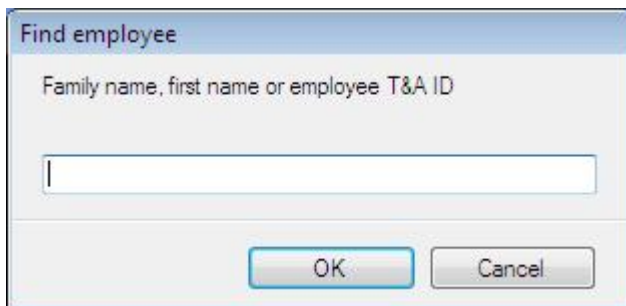

Figure 37. Finding employee dialog box
- ◆ **Find employee...** — opens the **Find employee** dialog box (Figure 37).